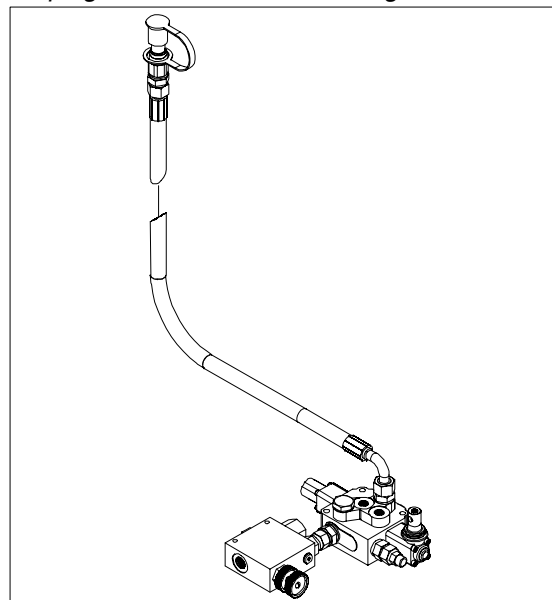

Fig 11. Connecting the tank hose.
- Connect the tank hose directly to the directional control valve – see Fig 11.